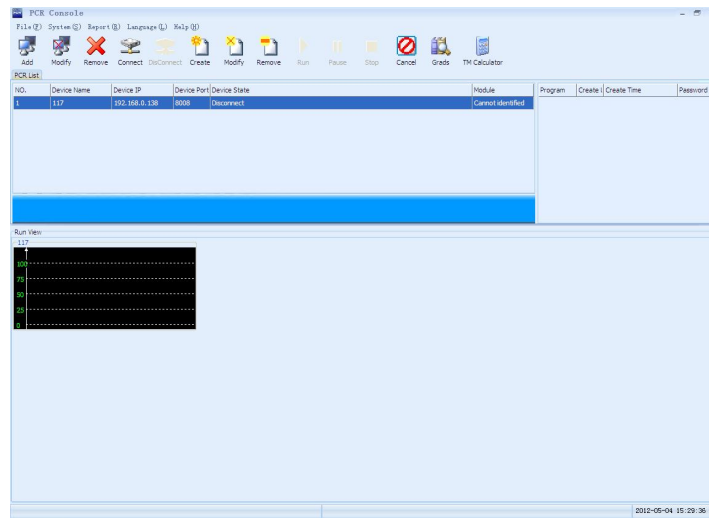

Figure 3-1
Step1. Double click master computer icon  to enter program operation interface. (Figure 3-1)